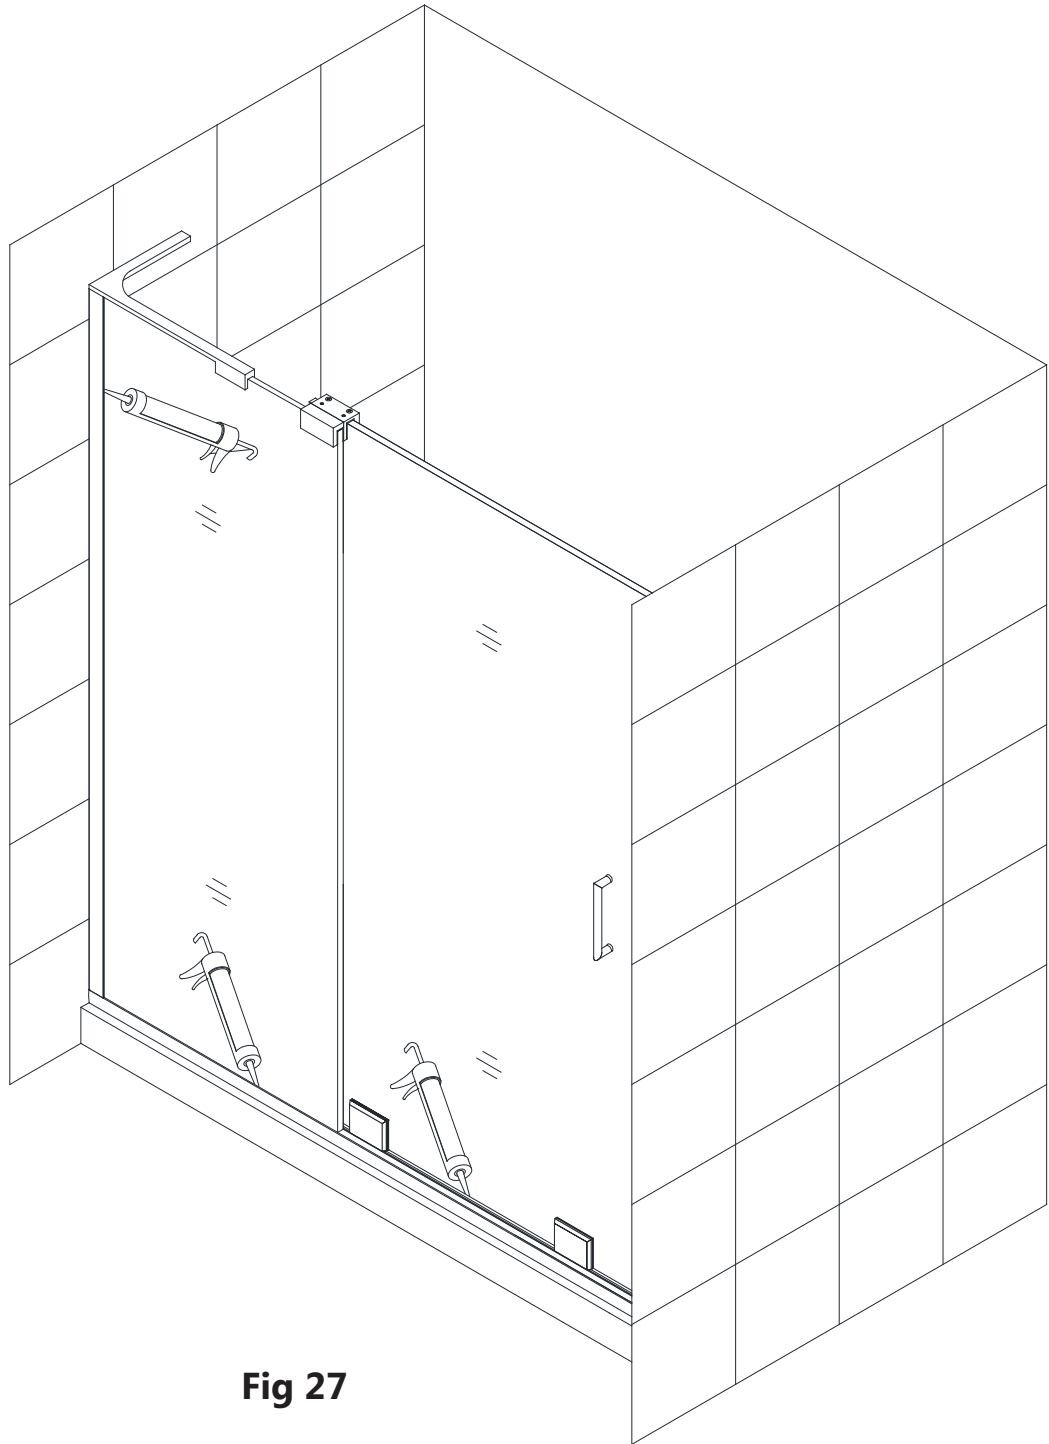

Fig 27
22. Apply a good quality, mildew-resistant silicone along the U-Channel and Bottom rail. **(Fig 27)**